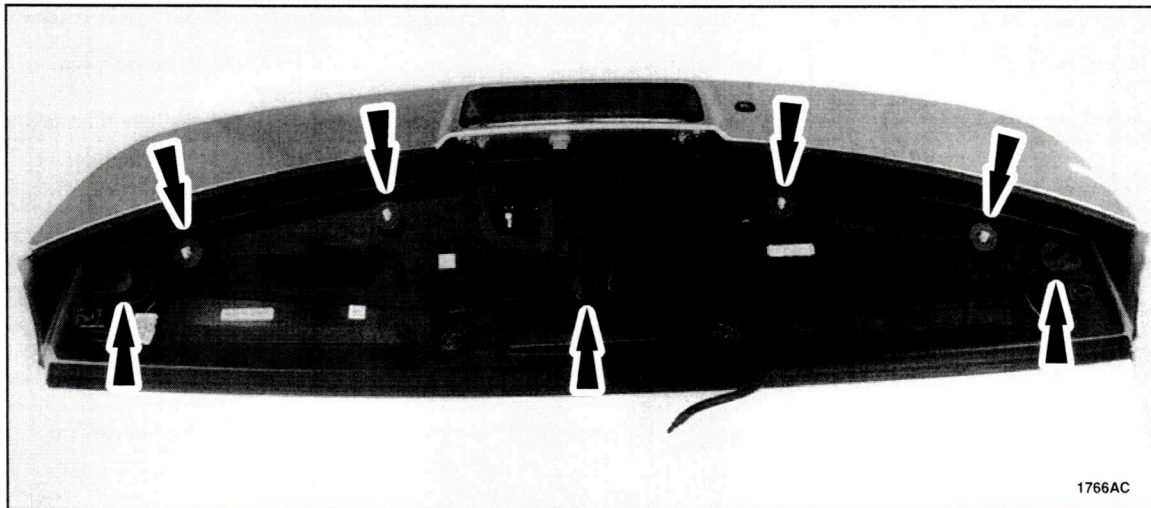

FIGURE 13
7. Install four *new* retention clips and three locating pin seals. See Figure 13.